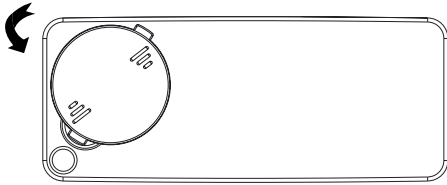

Fig. 1
2. Remove the battery compartment cover. (Fig.1) Install the included CR2032 battery. Ensure the battery is installed correctly with regard to polarity (+ and -).